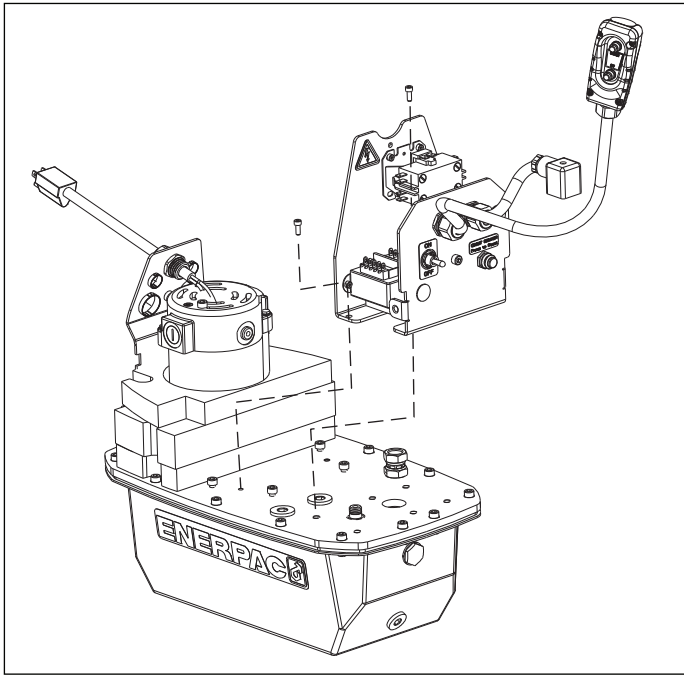

Figure 5, Installing new Front and Middle Brackets
1. Secure the new front and middle brackets to the pump cover plate, using the capscrews from the old brackets. Apply Loctite 545 sealant to capscrew threads before installation. Torque capscrews to 84-108 in-lbs [9.5-12.2 Nm]. See Figure 5.